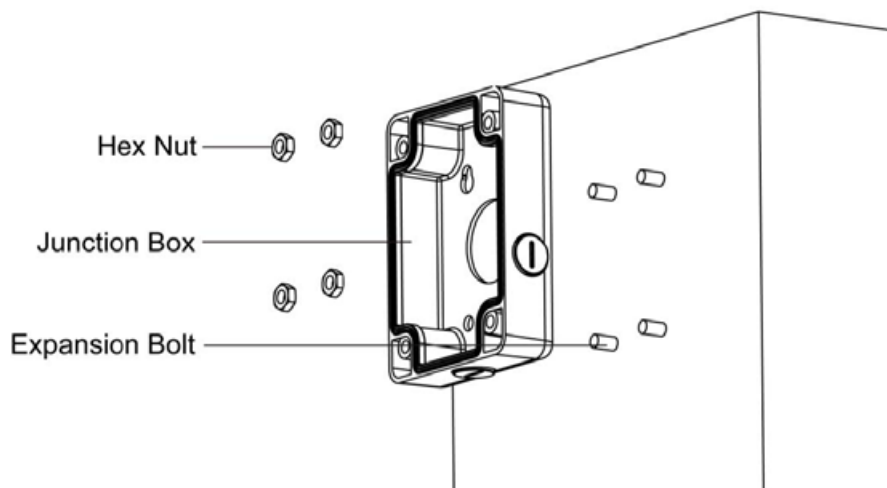

Fig 2.1
4. Use 4 hex nuts to fix the junction box on the installation surface and route the cables into the junction box (See Fig 2.1).